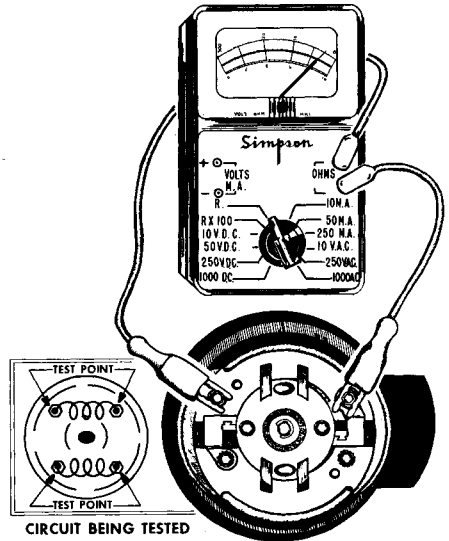

Figure 15 - Check for open stator
2. Check each stator winding, as shown in Figure 15.
- Each winding should register from 0.6 to 1.8 ohms on the meter scale, if winding is satisfactory. Check at top screws, as shown in Figure 15, then move meter probes to bottom screws to check other winding.